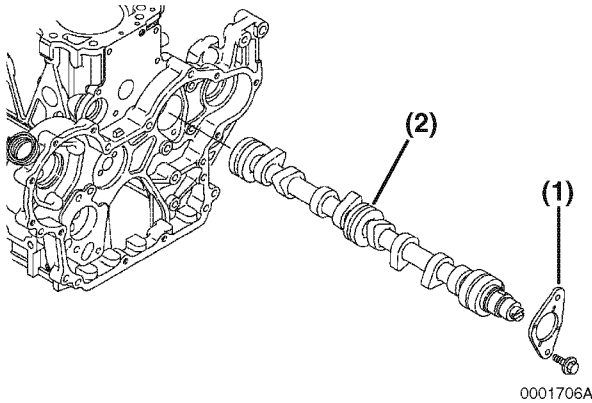

Figure 6-50
3. Remove the two bolts retaining the camshaft thrust plate (**Figure 6-50, (1)**). Remove the camshaft thrust plate.
4. With the engine installed in an engine stand, rotate the engine so that gravity causes the tappets to drop away from the camshaft lobes. Slowly pull the camshaft (**Figure 6-50, (2)**) out of the engine.